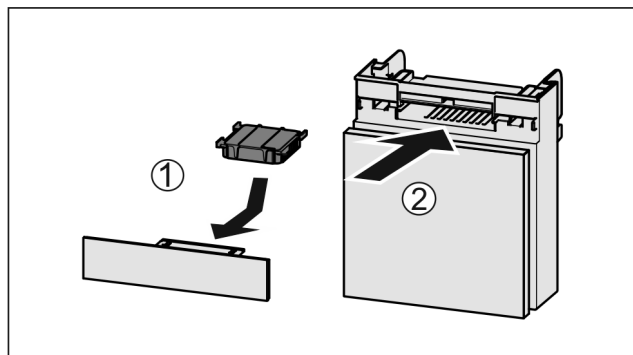

Fig. 110
- Insert the carbon filter as shown in the diagram Fig. 110 (1).
- Push the compartment in Fig. 110 (2).